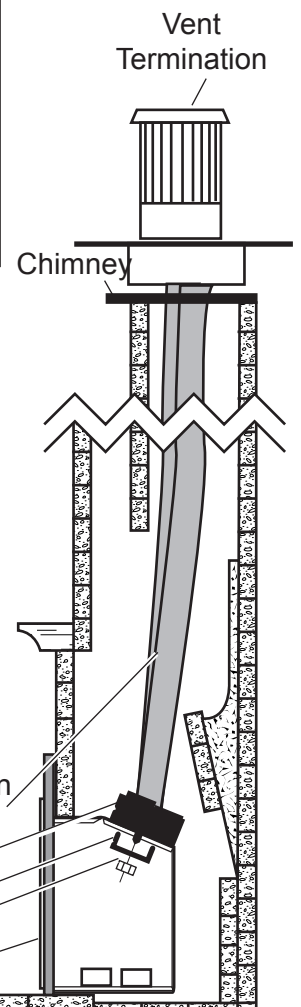

Figure 11 - Sliding Insert Into Place
6. Slide insert into place. Guide the manifold over the insert until it is fully in place. Figure 11.
7. Remove any slack from flex vent. Attach manifold to insert. Figure 11.
8. Remove any excess slack in flex line. Attach vent termination. Figure 11.